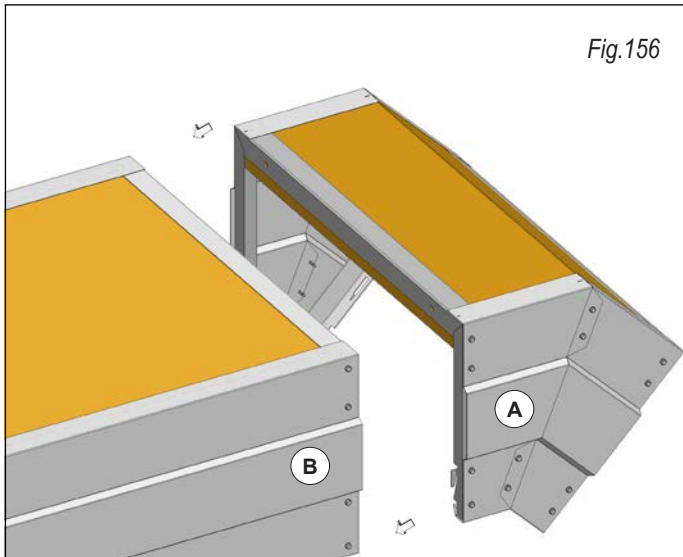
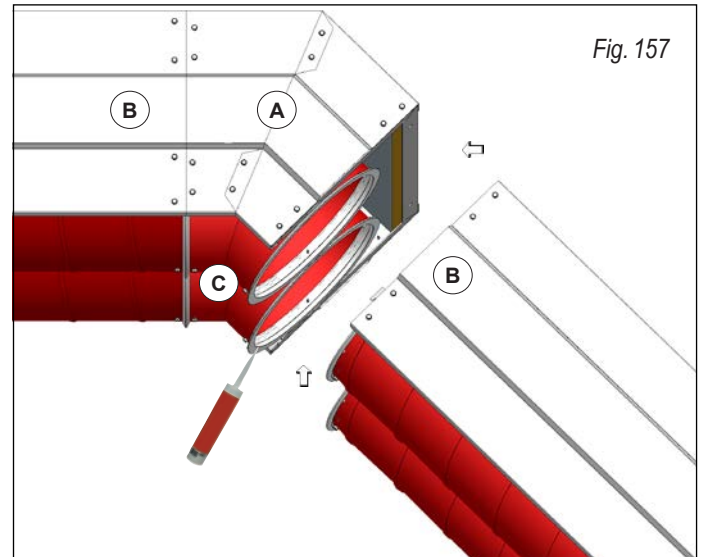

Fig. 156
Fig. 157
Hook the change kit dimension (A) with the unit of radiant tape (B) via the nose piece and the slot (fig. 156), as explained previously. Fix the first part of the module change in proportion to the radiant tape (fig. 156). Spread on both sides in the coupling flanges of the curve a bead of silicone. Place the flanges of the bend (C) on the flanges of the previous radiant module, insert the locking ring, fix the two flanges by means of nut and locknut. Connect the kit to the following radiant module through the male tooth (fig. 157).